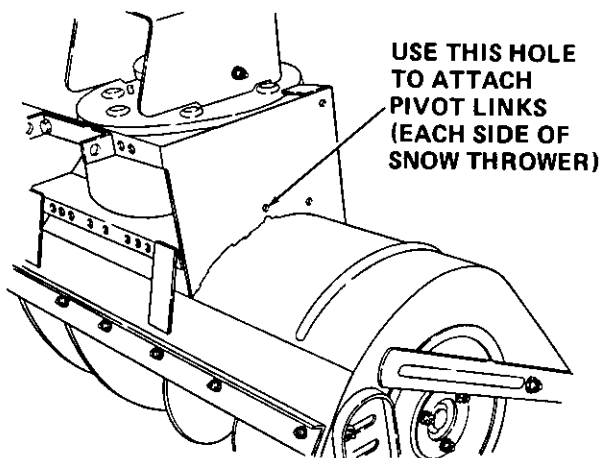

Figure 8
- a. Pivot links are to be secured to holes identified in Figure 8.